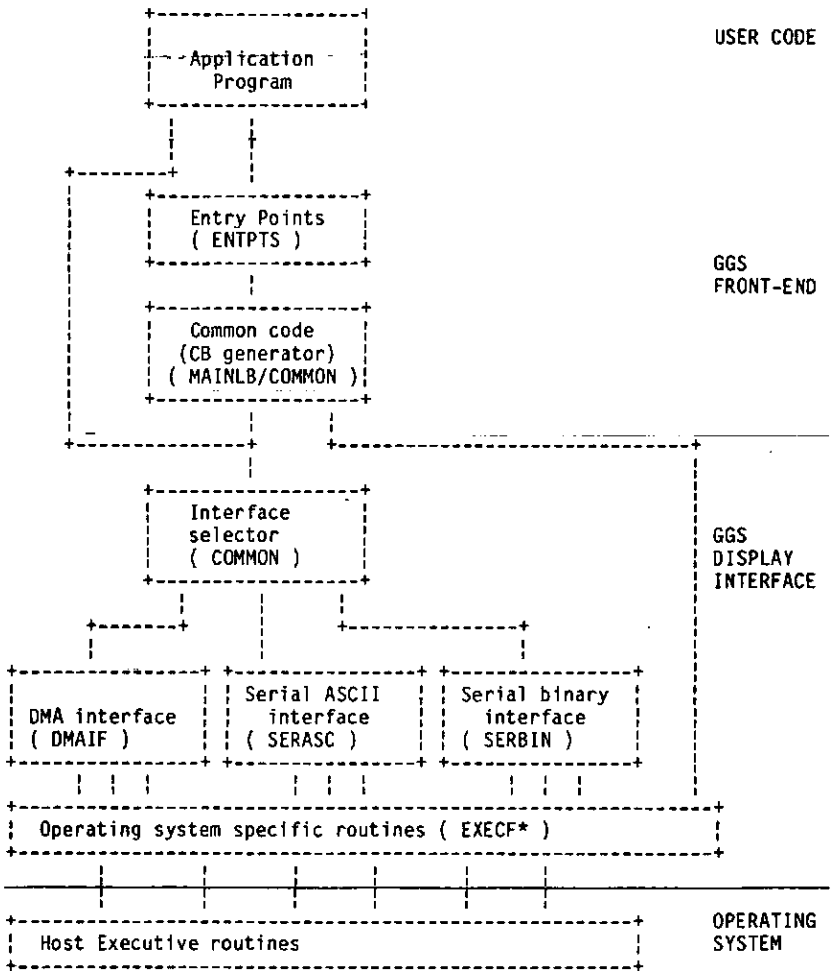

Figure 3.1 Block diagram of GGS library
GG5 is not a conventional collection of independent subroutines, since most of its processing is handled by common code. A block diagram of its structure is given in Figure 3.1. It consists basically of two parts: a front-end and a display interface. The data structure which links these two parts is the Command Block (CB), sometimes called a Display List. The function of the front-end is to produce a CB and the function of the display interface is to send the CB to the SBD via the chosen method (DMA, serial ASCII, or serial binary).